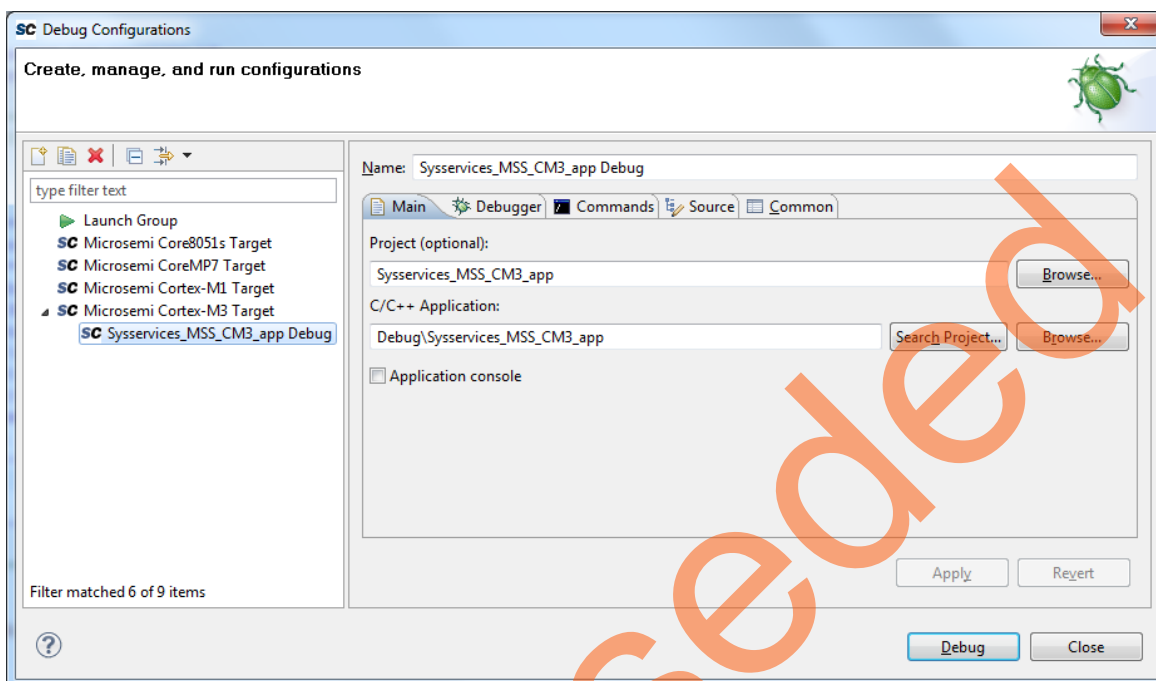

Figure 36 • Debug Configurations Window
9. Select **Debug Configurations** from the **Run** menu of the SoftConsole. The **Debug** dialog box is displayed. Double-clicking the **Microsemi Cortex-M3 Target** displays a window similar to Figure 36.